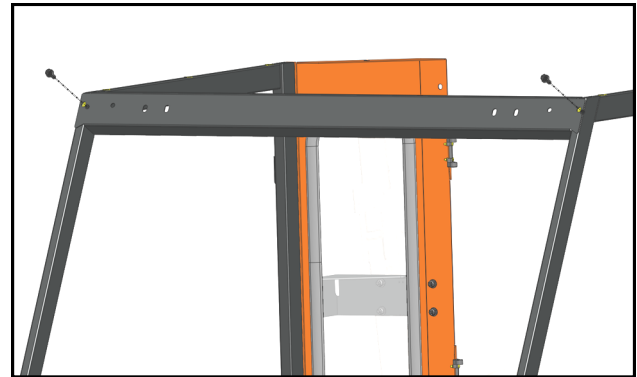

Fig. 6.1 (Windshield Support)
- 6.1** Install the windshield support onto the side frames, bolting to the threaded inserts in the front of the frames. See Figure 6.1. Align the sides of the cowl with the edges of the side frame and tighten these bolts at this time.